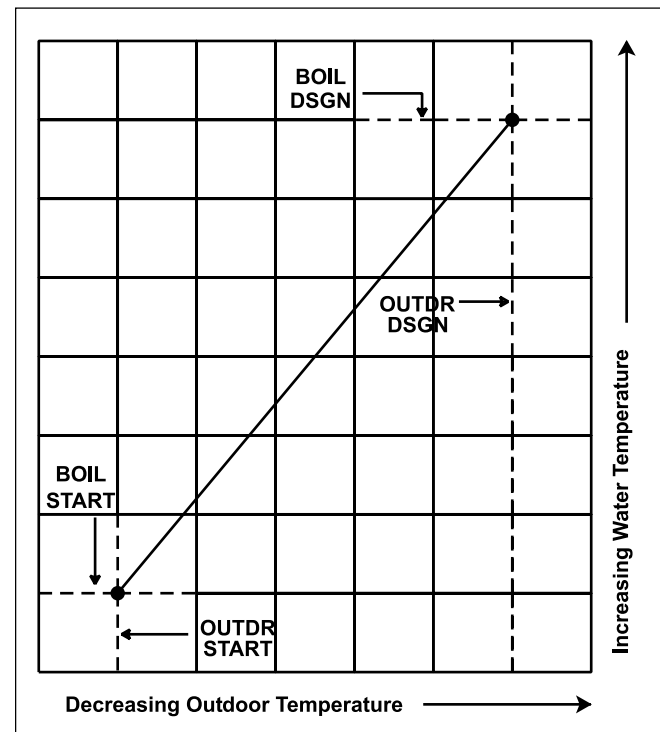

Figure 20. Temperature Control Outdoor Start Graph.
**Boiler Start (BOIL START)** – The BOIL START temperature is the theoretical boiler supply water temperature that the heating system requires when the outdoor air temperature equals the OUTDR START temperature setting. The BOIL START is typically set to the desired building temperature (see Figure 20).